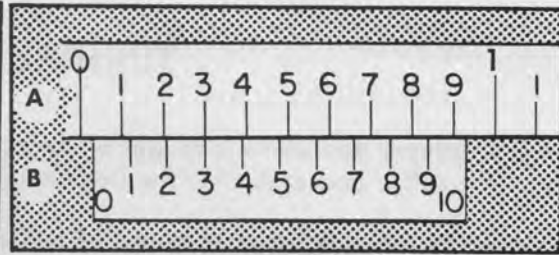

Fig. 6
Fig. 6 shows the third division on scale (B) in line with the number three division on Scale (A), indicating a reading of three tenths of a millimeter.